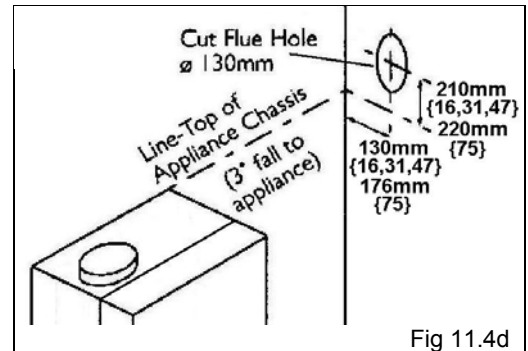

Fig 11.4d
- 1) With the boiler mounted in position, see section 7.0, draw a horizontal line along the wall 210mm (16, 31 & 47 models), or 220mm (75 model) above the top of the boiler. This line should rise at approximately 3° from the horizontal toward the terminal position to allow any condensate to drain through the boiler. See fig 11.4d.
- 2) On the adjacent sidewall, draw a vertical line 130mm (16, 31 & 47 models), or 176mm (75 model) from the wall that the boiler is mounted on. Continue the horizontal line previously marked on the sidewall, See fig 11.4d
- 3) At the intersection of the horizontal and vertical lines, cut a 130mmØ hole with a core drill. See fig 11.4d.